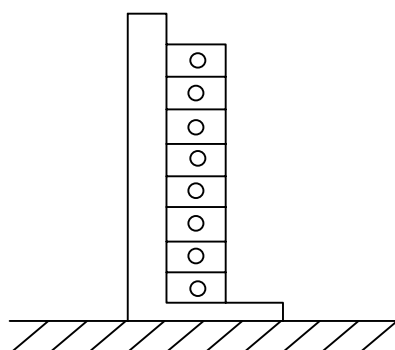

Fig.1.1 Mounting method
- (1) Input :AC 85 ~ 132 [V]
(2) Output :Rated output
(3) Mounting method :Shown as Fig.1.1